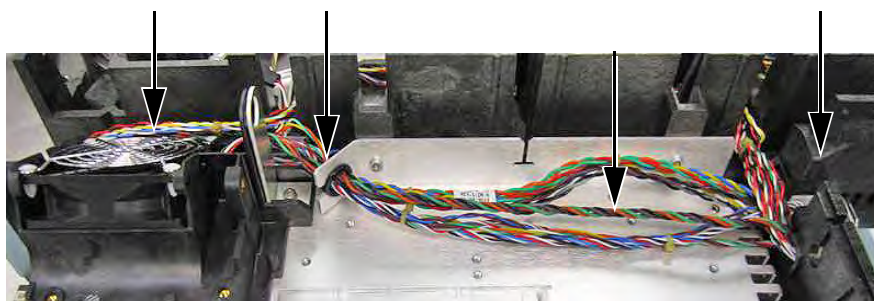

Figure 7 Route the MSD heater cable across the GC oven top (view from front of GC)
- 7 Route the MSD heated zone cable (long) across the top of the GC oven. Pass it under any detector gas lines and through the channels to the right side of the instrument. See Figure 7.